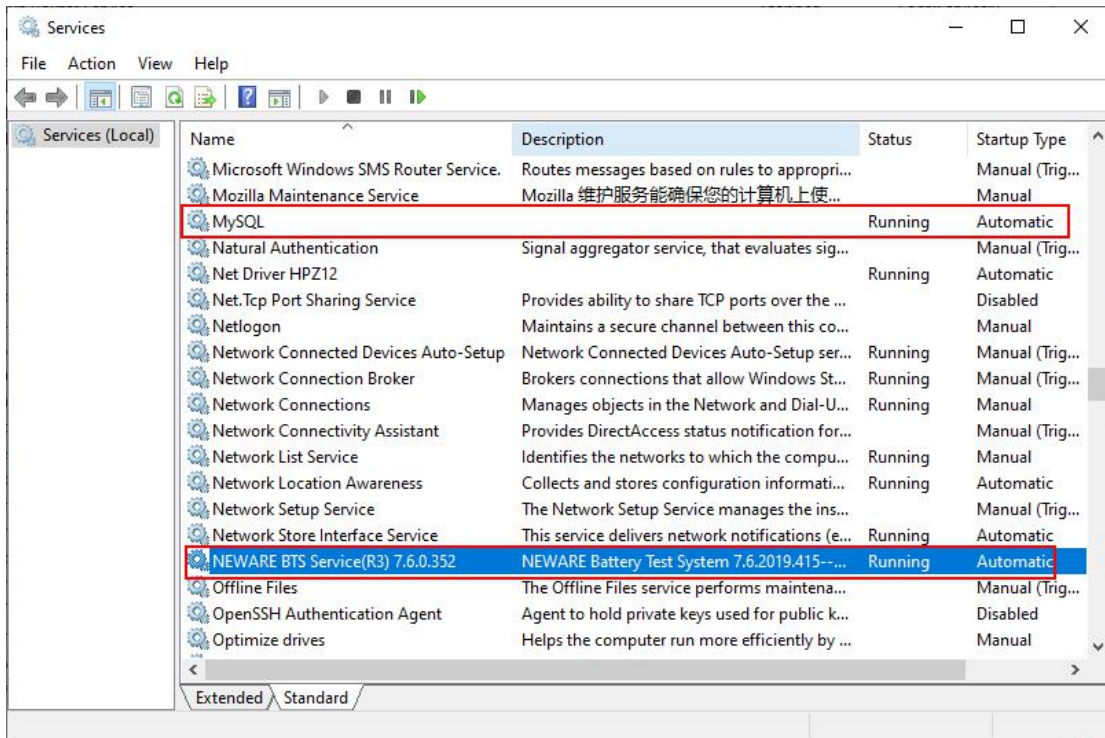

Figure3.4.1 Service and application window
1. Click “Control Panel”→ “System and Safety” → “ Management tools”Choose “ Service” to make sure whether “MySQL” and “NEWARE BTS Service” are in the list on the right and started.(Shown in the figure 3.4.1)